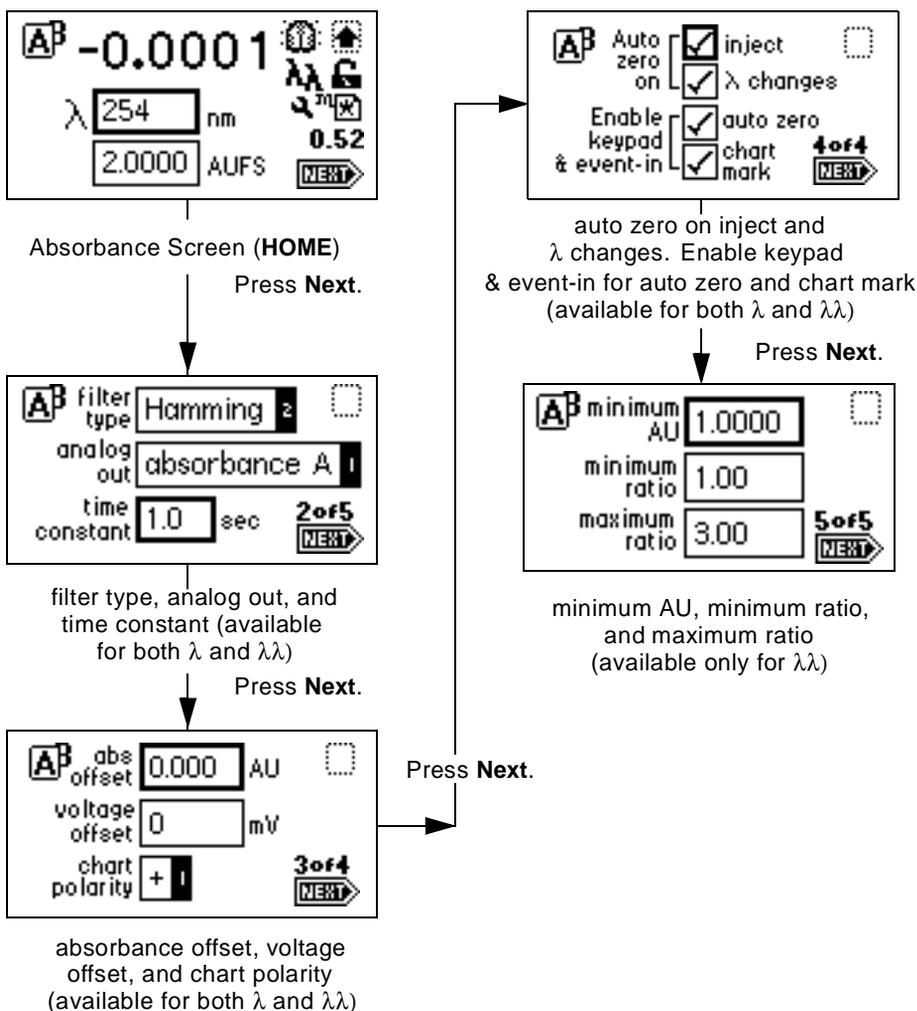

Figure 3-4 Secondary Functions of the Absorbance Screen
Auto Zero – Sets the absorbance offset so that the analog output (A and/or B, depending on the current settings), reads 0 AU. This key has no effect if auto zero is disabled on both channels. You can enable or disable the auto zero function from the fourth Absorbance screen (Figure 3-4).	λ/λλ – When you are on the Absorbance screen, use this key to toggle between single and dual wavelength modes. The current mode is indicated by an icon on the display.
When in single wavelength mode, the detector displays three additional screens labeled 2 of 4, 3 of 4, and so on. When in dual wavelength mode, the detector displays four additional screens, labeled 2 of 5, 3 of 5, and so on (Figure 3-4).
- **RatioPlot (A/B and B/A)** – Charts the ratio of absorbances at two wavelengths. Theoretically, the ratio is constant for a pure chromatographic peak and variable for an impure peak. This mode uses the three ratio parameters on screen 5 of 5 (Figure 3-4).
- **Chart mark** – You can specify the Chart mark input to create a chart mark on Channel A and/or Channel B. You determine the response of the channel using the enable chart mark function explained in Table 3-3 and shown in Figure 3-4.